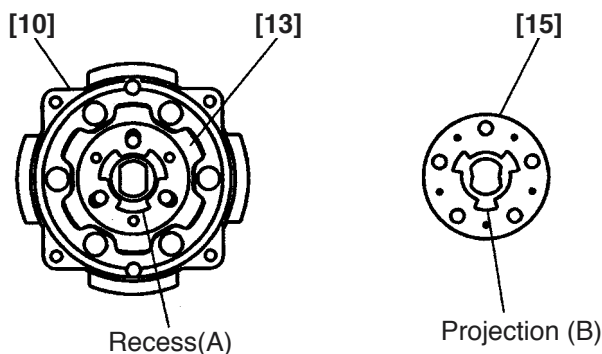

Fig. 7
- ③ When installing the Carrier [15], assemble so that recess (A) on the Lock Ring [13] is aligned with projection (B) on the Carrier [15] (be careful of the direction). Then make sure that the flat plane of the spindle faces the flat plane of the Carrier [15]. If assembled in wrong direction, the flat plane of the spindle may be stopped at the position about 2 mm lower than the flat plane of the Carrier [15] (see Figs. 7 and 8).